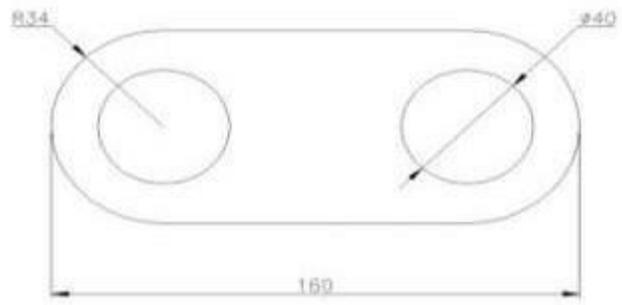
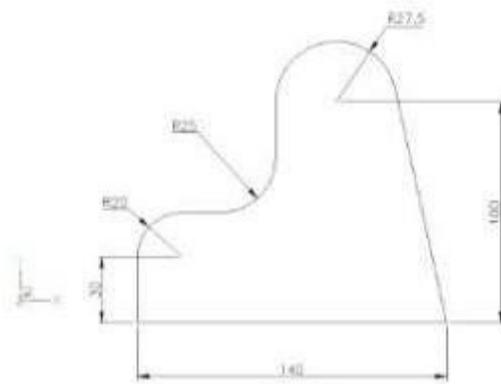

Fig.2
Fig.6
4. Repeat the same for Fig.2 to Fig.6